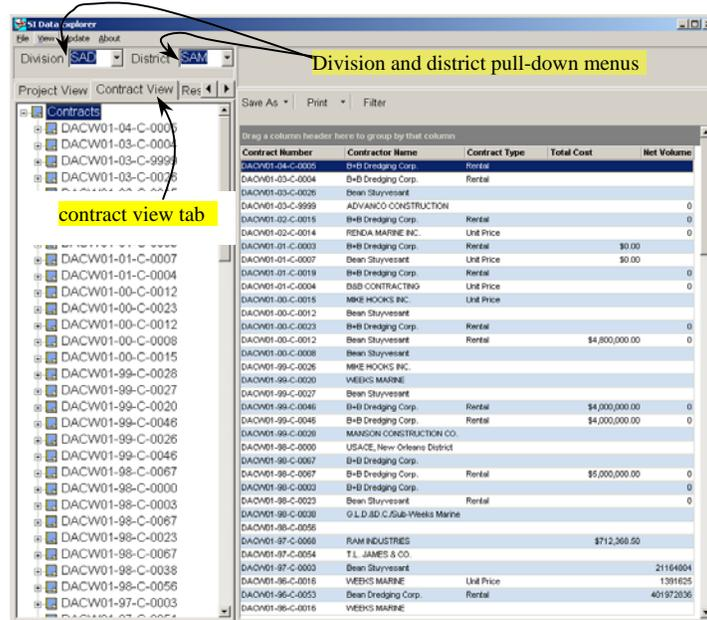

Figure 1.53. Silent Inspector Data Explorer Contract
1. Select the division and district of the contract in the Data Explorer Window as shown in Figure 1.53. Click on *the Contract View* Tab to show dredging operations by contract (see Figure 1.53).